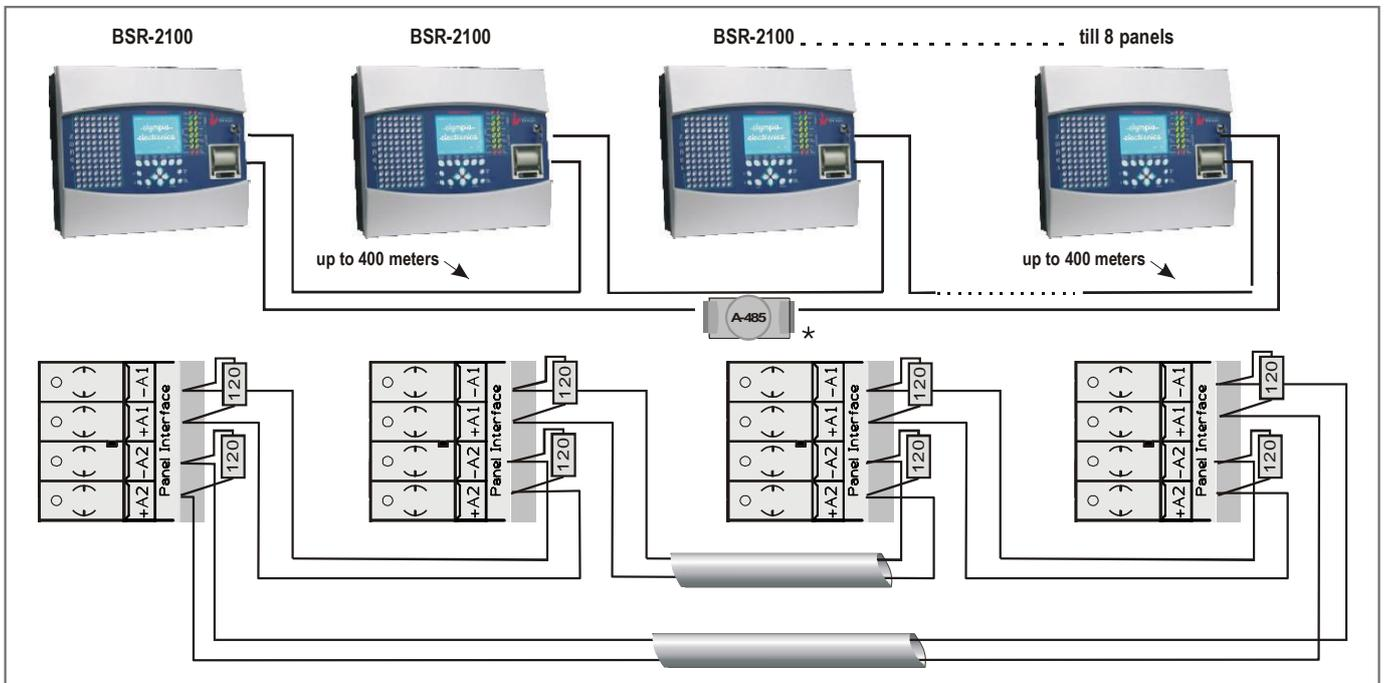

**Figure 3-11 Connecting sirens to the panel**
**In each connection a resistance 120Ω must be placed as figure 3-11 shows**